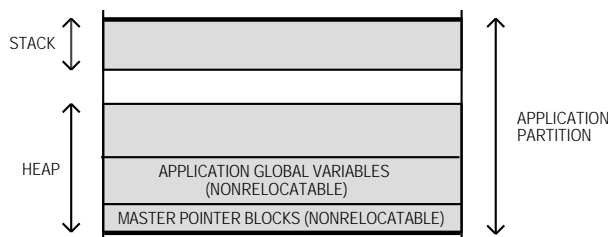

FIG 7 - STRUCTURE OF A POWERPC APPLICATION PARTITION
The organisation of the application partition in the PowerPC environment is substantially simpler than in the 680x0 environment. However, the application partition for a PowerPC application (see Fig 7) consists only of a stack and a heap.
- **Application Global Variables.** In PowerPC applications, the application's global variables are part of the fragment's data section, which the Code Fragment Manager loads into the application's heap (see Fig 7). The application's global variables are always located in a single nonrelocatable block and are addressed through the fragment's **table of contents**⁷.